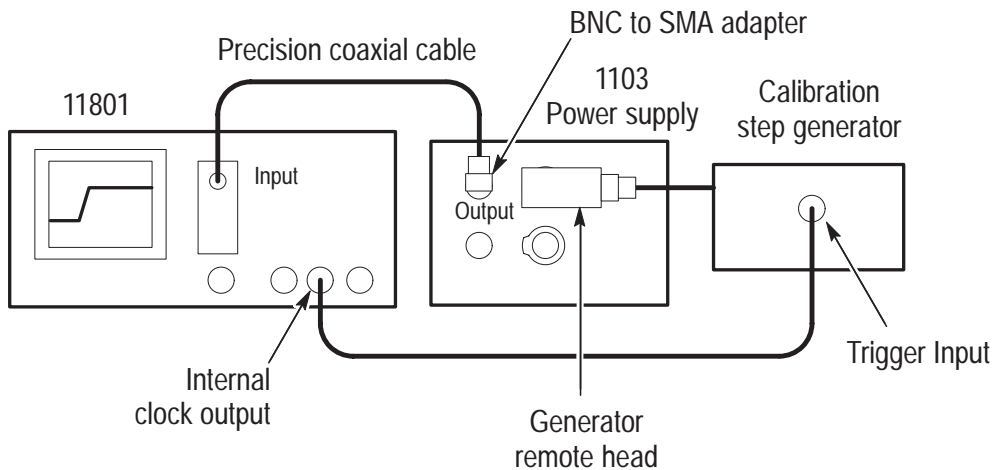

Figure 13: Test system rise time setup
1. Connect the test equipment as shown in Figure 13.
5. Adjust the oscilloscope horizontal and vertical position controls to display a signal similar to that shown in Figure 13.